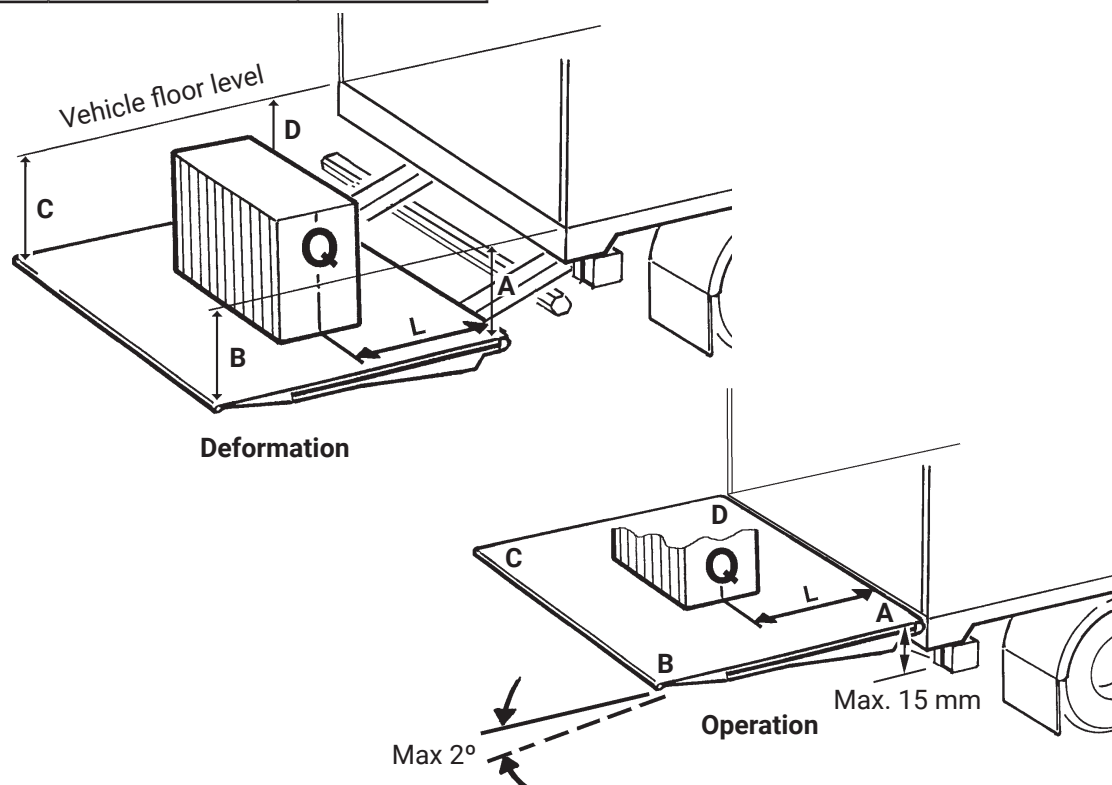

Figure 102. Testing and verification
- Position the tail lift half way to vehicle floor level and with the platform horizontal. Measure dimensions A-B-C-D for comparison as illustrated. Figure 102